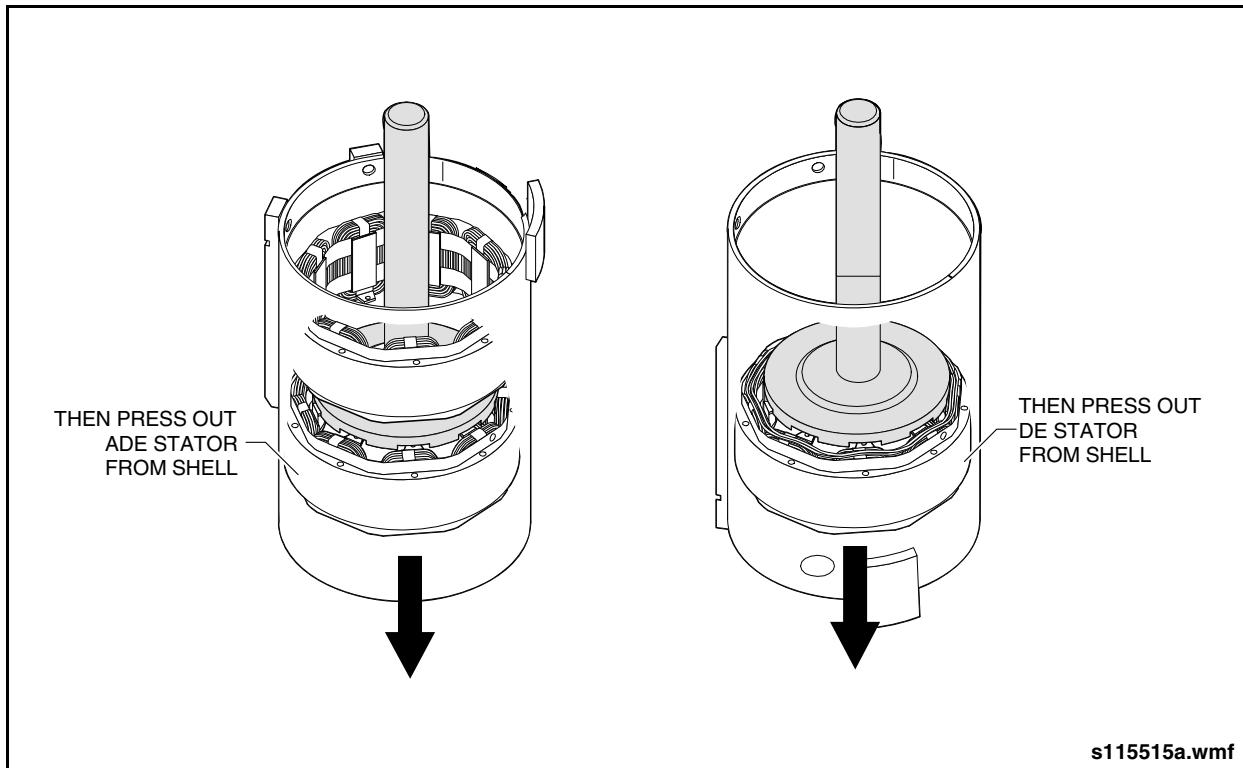

Fig. 9-23: DE Stator Removal
- d. Reposition the tool so that the handle protrudes through the anti-drive end of the shell and the pressing surface of the tool seats against the DE stator. Press out the DE stator. See "Fig. 9-23: DE Stator Removal" on page 28.